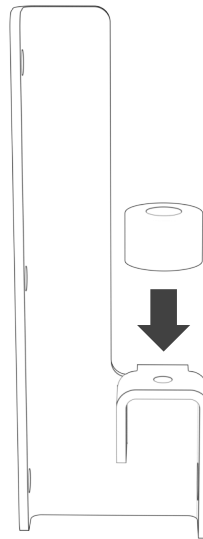

FIGURE 5
Place (1) of the provided 8-32X50 Phillips Head screws into the opening (See Fig. 5).